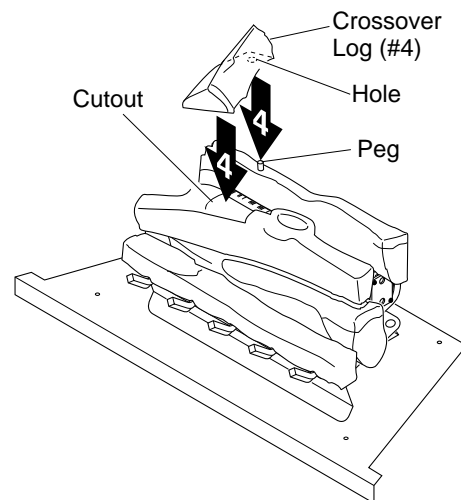

Figure 25 - Installing Crossover Log (#5)
4. Place the crossover log (#4) on the rear log and the middle log. Make sure the peg on the rear log is in the hole in the bottom of the crossover log. The crossover log should fit in the cutout of the middle log (see Figure 25).